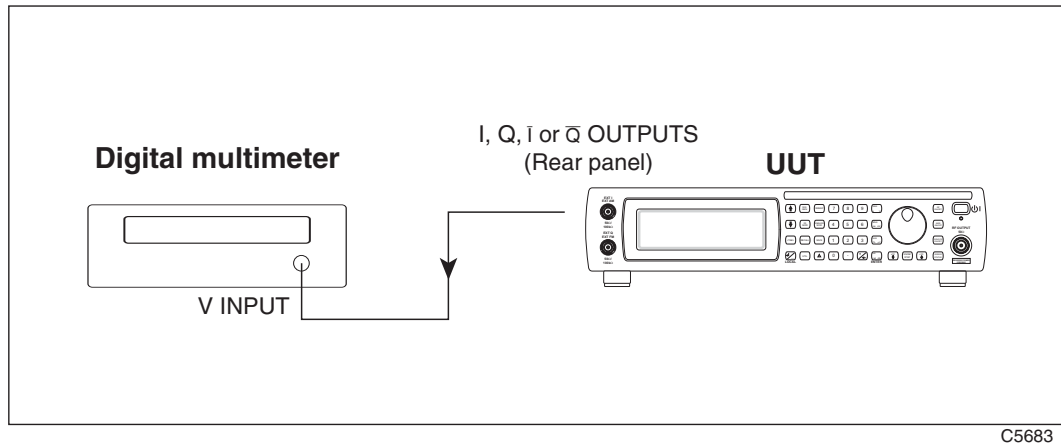

Fig. 6-14 Differential IQ outputs test setup
- 1 Connect the test equipment as shown in Fig. 6-14, with the cable connected to the I output.